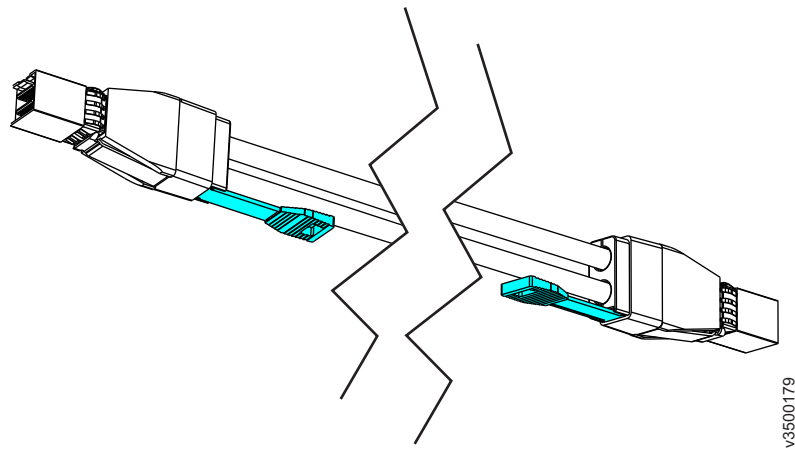

Figure 21. Mini SAS HD to Mini SAS HD cable
- Mini SAS HD to Mini SAS HD (Figure 21)